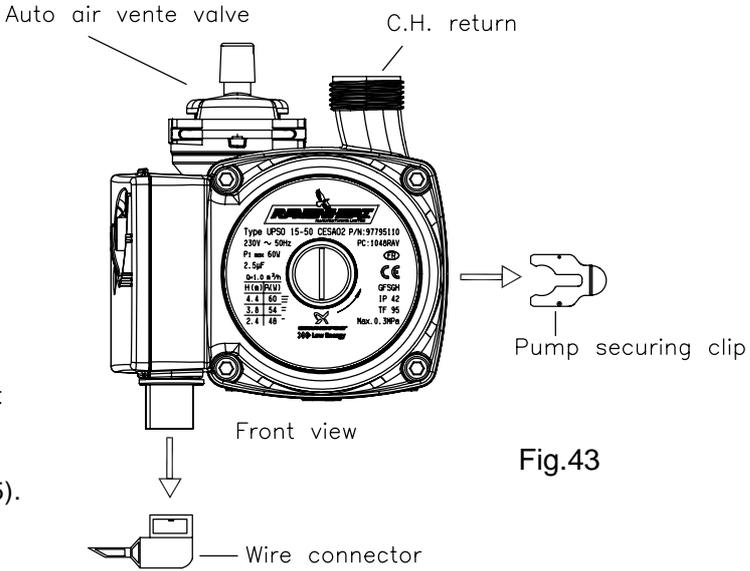

Fig.43
**8.20 TO REMOVE/REPLACE AUTOMATIC AIR VENT (Fig.43).**